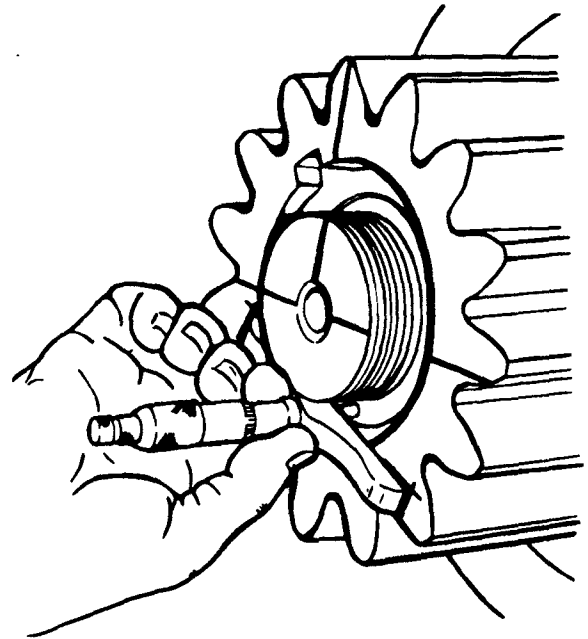

FIGURE 1-2-10
3. Mount the pinion cold by placing it on the shaft and snapping it into position by hand. Measure the "cold" position of the pinion, using a micrometer depth gauge. Figure 1-2-10 illustrates the method of using the depth gauge. Mark the places where the depth gauge was resting so measurements can be made from the same position after the pinion has been mounted.